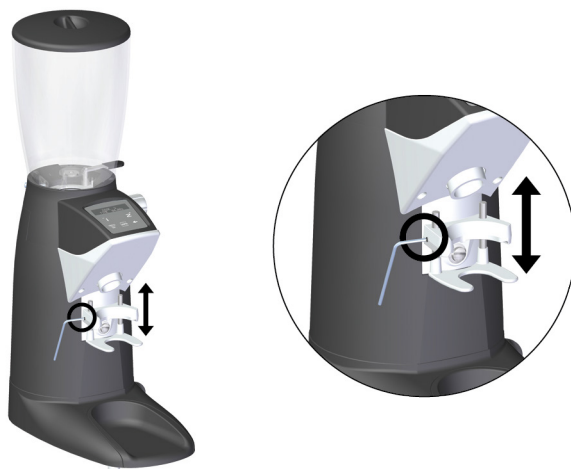

Fig. 1
1. Loosen the two adjustment screws (10) found on each side of the upper portafilter fork (16), by using the *Allen Key* included with your grinder.
3. Tighten the screw (10) found on each side of the upper portafilter fork (16), with the *Allen Key* provided (**Fig. 1**).
Unpack the grinder carefully and place it in the assigned work space. Before placing the bean hopper on the grinder, loosen the security screw found on the upper collar of the grinder (5). Place the bean hopper (2) on the upper part of the grinder so that the bean trap lever (4) is positioned on the right side of the grinder in the **CLOSED** position (Fig. 1). Once the bean hopper is placed on the grinder, rotate it clockwise until it is firmly in place and can rotate no further. If desired, replace the hopper security screw (5) to ensure the hopper cannot be removed manually.